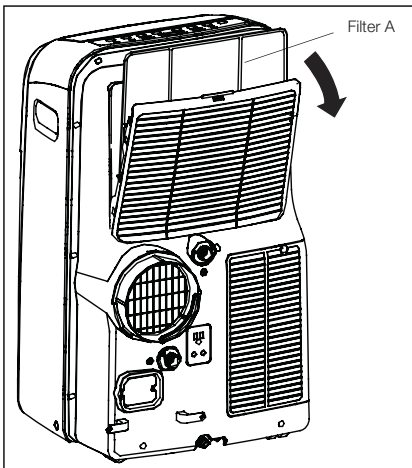
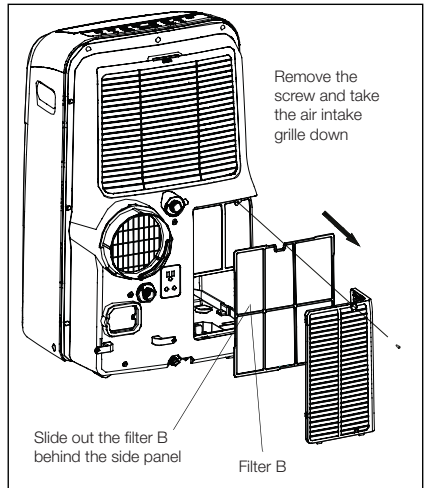

Fig. 27
Fig. 28
- This unit has two filters, they are filter A and B. Grasp the upper panel tab and take off the filter A which behind the grill of the back panel (Fig. 27). Remove the lower filter B by loosening the screw. Take down the air inlet grille, then remove the air filter as shown in Fig.28.